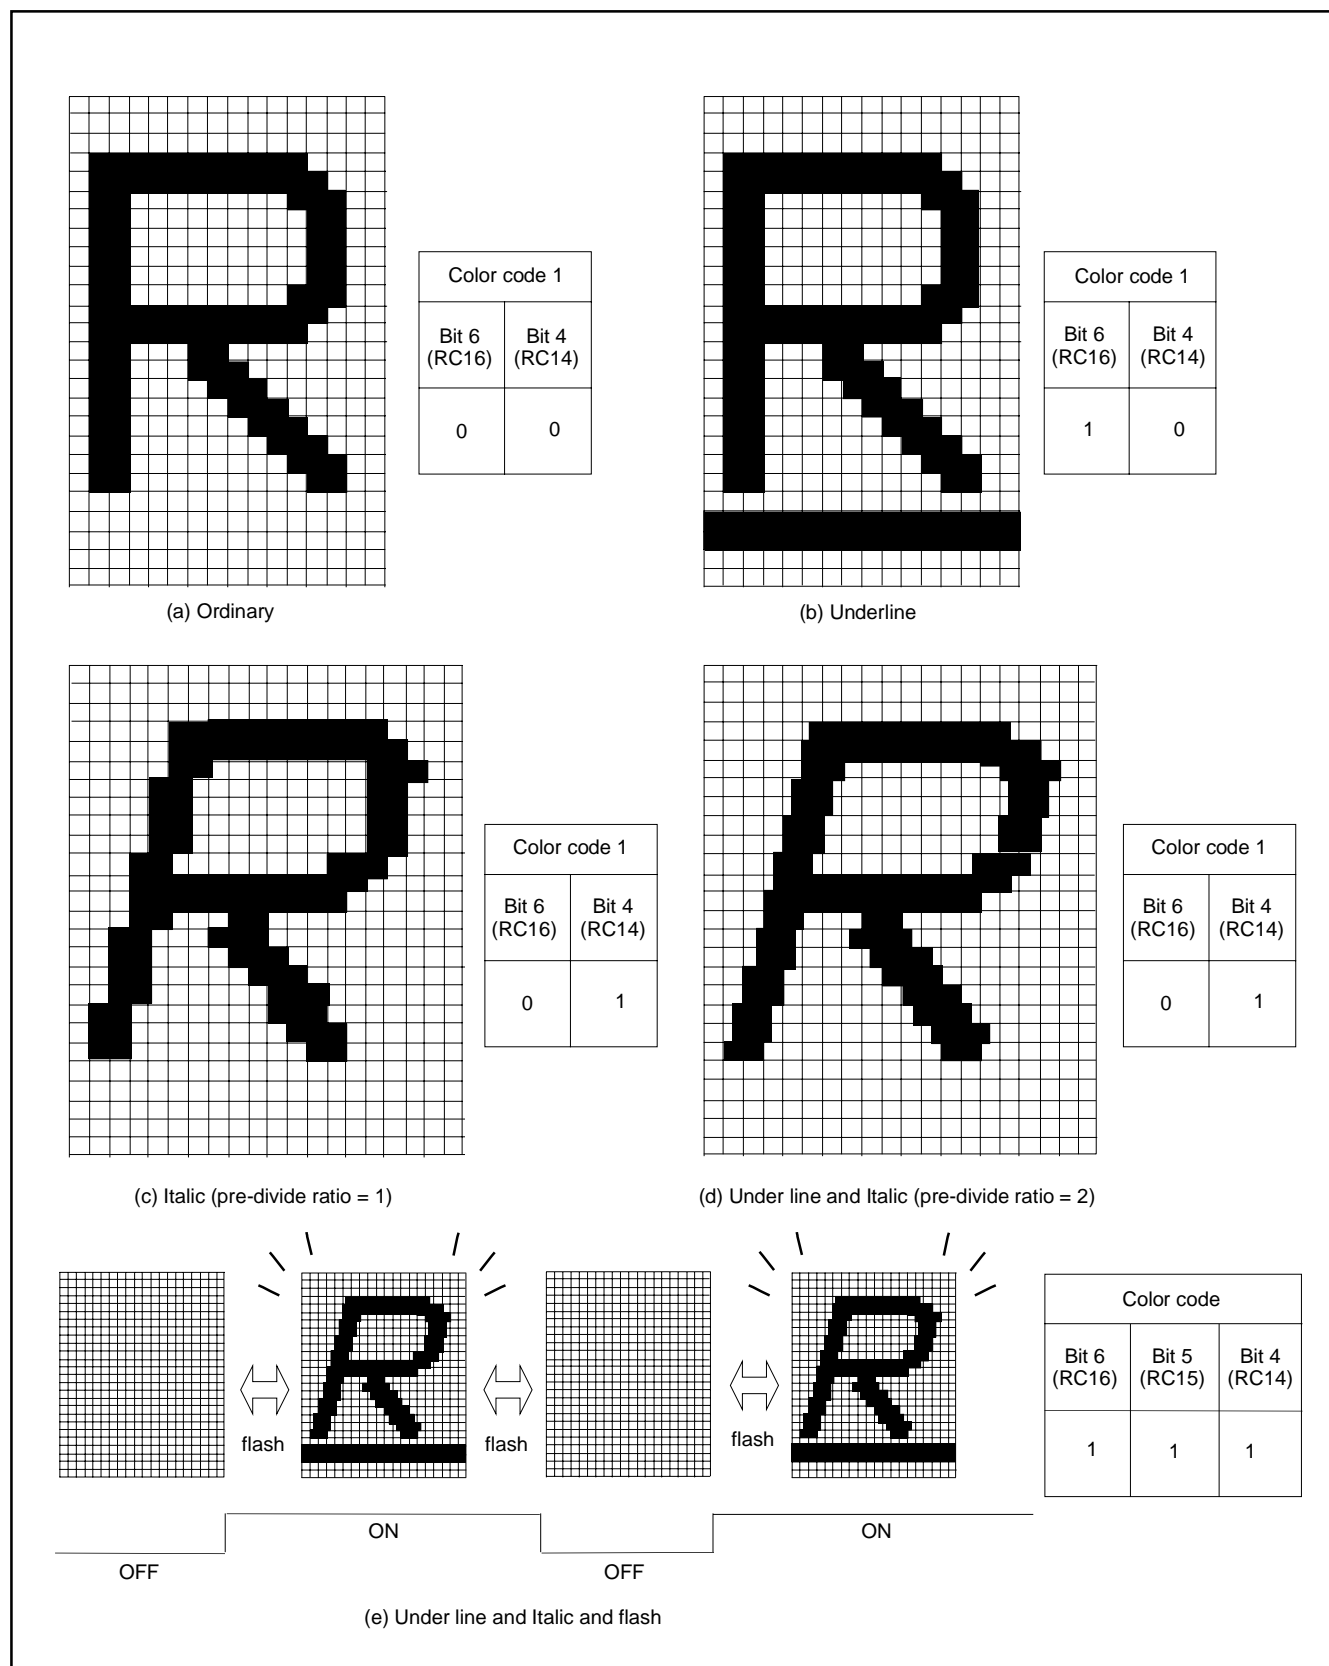

Fig. 8.11.30 Example of Attribute Display (in CC Mode)
The display example of attribute is shown in Figure 8.11.30. In this case, "R" is displayed.
- 4: When the pre-divide ratio = 1, the italic character with slant of 1 dot X 5 steps is displayed ; when the pre-divide ratio = 2, the italic character with slant of 1/2 dot X 10 steps is displayed (refer to Figure 8.11.30 (c), (d)). However, when displaying the italic character with the pre-divide ratio = 1, set the OSD clock frequency to 11 MHz to 14 MHz.
- 7: When displaying the 32nd character in the italic and when solid space is off (OC14 = "0"), parts out of character area is not displayed (refer to Figure 8.11.30).